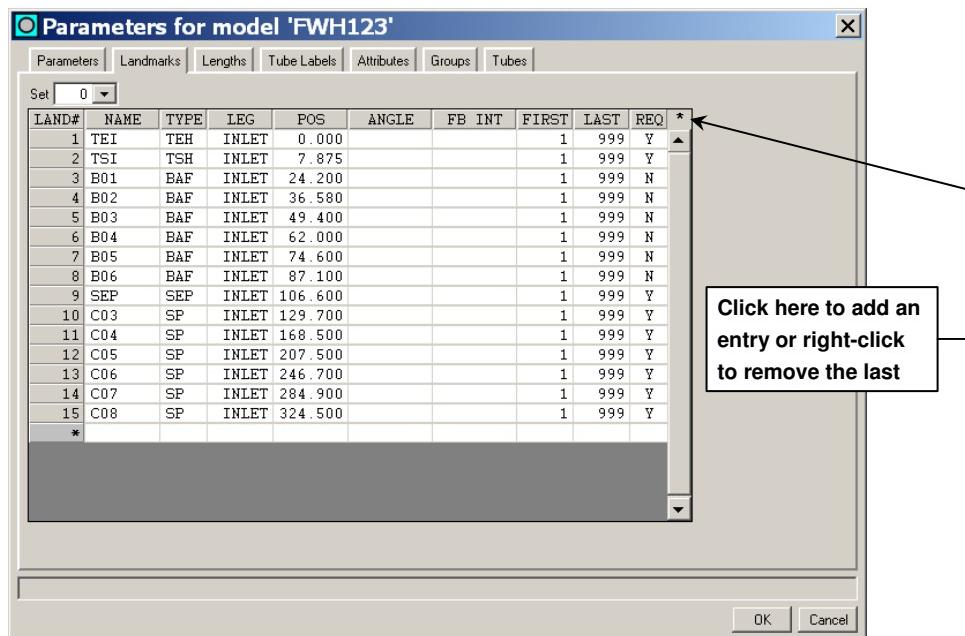

Figure 24. Landmarks Tab on the Main Parameters Dialog
Figure 24 shows the **Landmarks** tab of the main **Parameters** dialog. **Landmark** is a term used to describe the various internal support structures that many of the tubes pass through. These landmarks are easily detected during eddy current inspections. Most have a classic signal signature, which is easy to discern from other signals of interest, i.e., tube wall loss. If it is desired to use the auto-locating feature of the Analysis software, it will be necessary to *build* a landmark table. A *cmp* file may contain multiple sets of landmarks. For example, the landmarks detected by eddy current on the inlet leg of a typical 2-zone feedwater heater will be different from the landmarks detected on the outlet leg. If straight-lengths are being tested and the *cmp* file was *built* to display all the straight-lengths, then separate landmark sets must be used. To add an entry, click the gray box indicated in Figure 24 or right-click the box to remove the last entry. To delete an entry other than the last one, click on any field of the entry you wish to delete and press **Shift+Delete**. To insert an entry other than the bottom one, click on any field of the entry you wish the new entry to be inserted before and press **Shift+Insert**.
The landmark table shown in Figure 24 is for the 2-zone feedwater heater containing U-tubes shown Figure 1. Note that the tubesheet map is displaying all the straight-lengths. If it were displaying only the U-tubes, only half the tube ends would be shown. The table was *built* from the inlet tube end to the last tube support before the U-bend. Note that the distance (**POS**) value is cumulative – that is, each landmark is referenced to the *zero* landmark. For example, landmark 'C08' is
Figure 25 shows the other landmark set for the outlet leg of the tubesheet shown in Figure 1. The **Set** drop-down list now shows the number '1' vs. '0' (*zero*) as in Figure 24. This landmark *set* is built much the same way that the inlet landmark set was built in Figure 24. The **NAME** column now reflects the names of the outlet leg landmarks. Note that the **LEG** column is still set to **INLET**. Since this *cmp* file is showing both tube ends or *legs* of a U-tube component, we must treat each leg as a separate tube bundle for auto-locate to work correctly. Think of the inlet tube end as being the inspection reference tube end.
User-defined landmark types may be used as well. For example, the subcooler end-plate in Figure 24 is *typed* and *named* ‘SEP’.
- **REQ**: Abbreviation for 'required.' Enter **Y** for yes or **N** for no. A **Y(es)** forces auto-locate in Analysis to label this landmark for every tube in the **First - Last** range of rows – even if the landmark is not present. An **N(o)** allows the Analysis software to detect if the landmark is present and, if so, locate and label it. In Figure 24, the baffles are marked as **N** in the **REQ** column because the baffles are not present in every tube of every row.